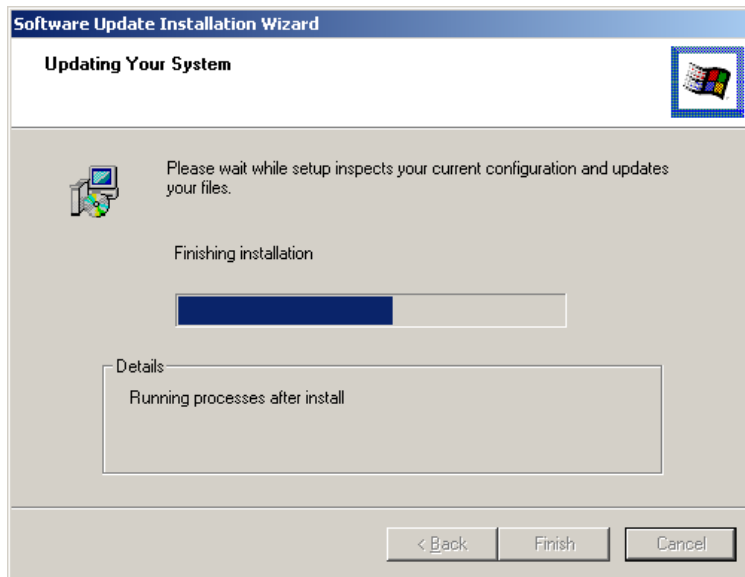

Figure 7-50: Installation Wizard Updates the System
Step 12: The Installation Wizard updates the system as shown in Figure 7-50.